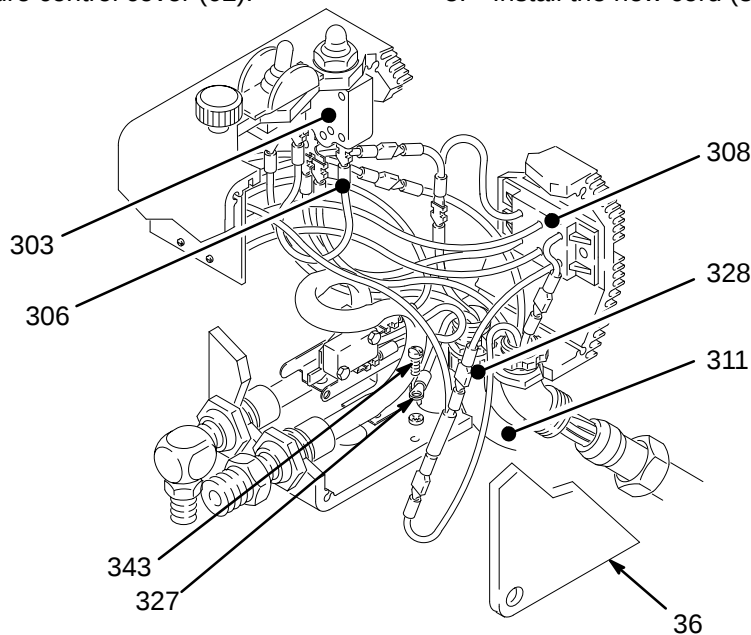

Fig 17
2. Remove the pressure control cover (36).
3. Disconnect the upper terminal wire from the micro-switch (302) and the two black wires from the ON/OFF switch (303). See Fig 17.
4. Using a 5/8 in. socket wrench, remove the nut and rubber boot (304). Remove the switch guard (305).
5. Remove the ON/OFF switch (303)
6. Install the new switch so the internal tab of the anti-rotation ring (W) engages with the vertical groove in the threads of the switch, and the external tab engages with the blind hole (D) of the pressure control box.
7. Install the switch guard (305), aligning the internal tab with the groove in the threads.
8. Powder the inside of the rubber boot (304) with talcum powder, then shake the excess out of the boot.